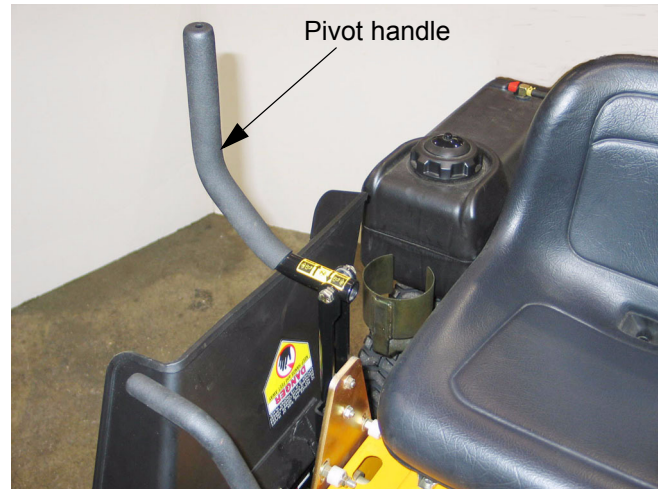

Figure 15.1
15.1. The lap bars do not have room to pivot outward in the conventional manner because they would interfere with the deck wings in the raised position. For this reason, separate pivot handles articulate on the lap bar pivot brackets which fasten to the steering pivot plate. See Figure 15.1.